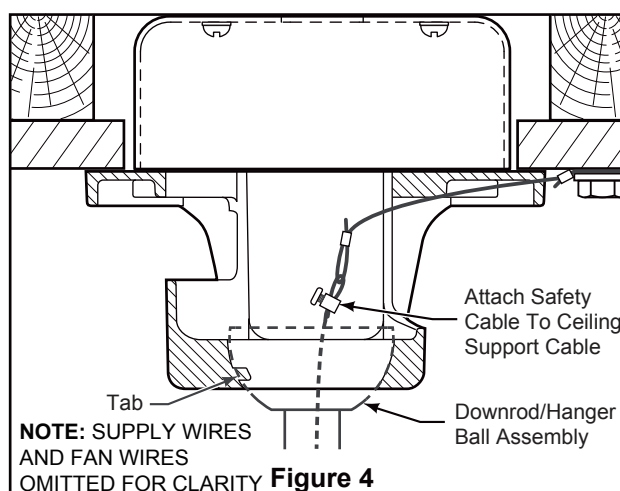

Figure 4
- ☐ 4. Slide downrod into the downrod support on top of the motor. Install the clevis pin by aligning the holes in the downrod support with holes in the downrod. Secure clevis pin with hairpin clip. Install and tighten the two set screws with nuts in the downrod support. (Figure 4)
- ☐ 4. Carefully lift the fan and seat the downrod/hanger ball assembly onto the hanger bracket that was just attached to the outlet box. Be sure the groove in the ball is lined up with tab on the hanger bracket. (Figure 4)
- ☐ 5. Attach the safety cable to ceiling support cable. Slide cable clamp and washer onto safety cable (from fan). Place the end of cable through the loop of ceiling support cable. Pull as much cable through loop as possible. Feed end of cable into clamp hole and firmly tighten screw. (Figure 4)
3. Connect green wires from hanger bracket and downrod to bare (ground) wire using wire connector. Connect black wire from receiver unit marked “AC IN L” to black supply wire using wire connector. Connect white wire from receiver unit marked “AC IN N” to white supply wire using wire connector. Connect white wire from receiver unit marked “TO MOTOR N” to white wire from fan using wire connector supplied with receiver unit. Connect black wire from receiver unit marked “TO MOTOR L” to black wire from fan using wire connector supplied with receiver unit. Lastly, connect blue wire from receiver unit to the blue fan light wire using wire connector supplied with receiver unit. (Figure 4)
- ☐ **4.** To set the remote code same positions as the receiver with a small screwdriver or ball point pen (neither included), slide dip switches firmly up or down. (Figure 4)